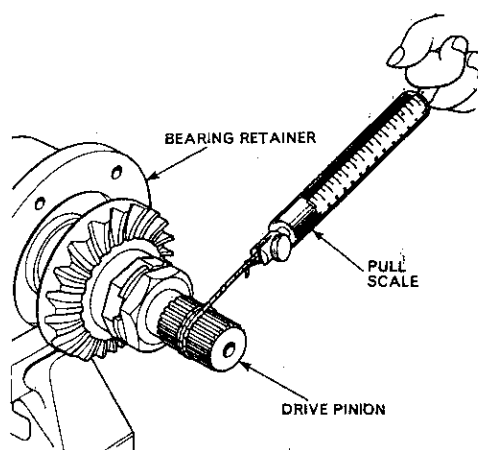

Fig. 316—Checking bevel pinion bearing preload with pull scale and cord wrapped around pinion shaft.
The bevel pinion is available only in a matched set with the bevel ring gear; if necessary to renew the pinion, refer to paragraph 287 and install the matched ring gear. Renew bearings if rough or excessively worn and adjust bearing preload as follows: Tighten the nut (48) until pull required to rotate the pinion in the bearings is 16 to 21 pounds when checked with pull scale and cord as shown in Fig. 316. When bearing preload adjustment is correct, install new tab washer (49—Fig. 314) tighten the nut (50) and bend tabs against nuts. Then recheck bearing preload as shown in Fig. 316 and readjust if necessary.